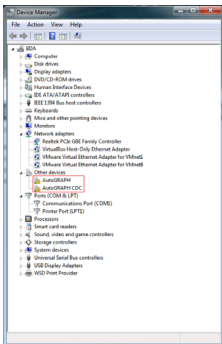

Figure 1.
1. Connect the tracker to your PC using the interface cable. The system will automatically search for new equipment (Fig.1). For proper operation, it is sufficient to install drivers for AutoGRAPH device. The AutoGRAPH CDC drivers are required for the tracker operation in the GPS-mouse mode.